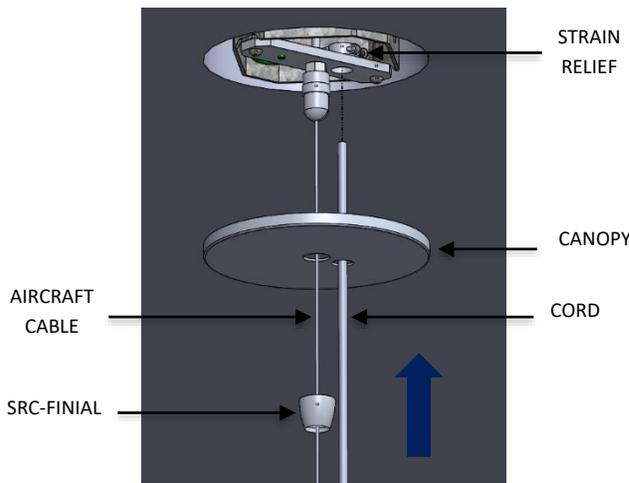
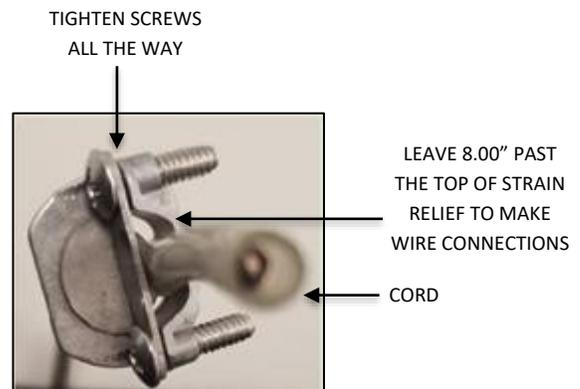

FIG. 17 - CORD INSTALLATION
FIG. 18 – STRAIN RELIEF WITH CORD INSERTED
7. Dis-assemble the CANOPY by loosening the CEILING COUPLER. Feed the CORD through the CANOPY and MOUNTING BRACKET ASSEMBLY to the desired length and secure the CORD by tightening the STRAIN RELIEF as shown in FIG. 17. Leave minimum of 8.00" past the top of the STRAIN RELIEF for making wire connections to DRIVER as shown in FIG. 18.